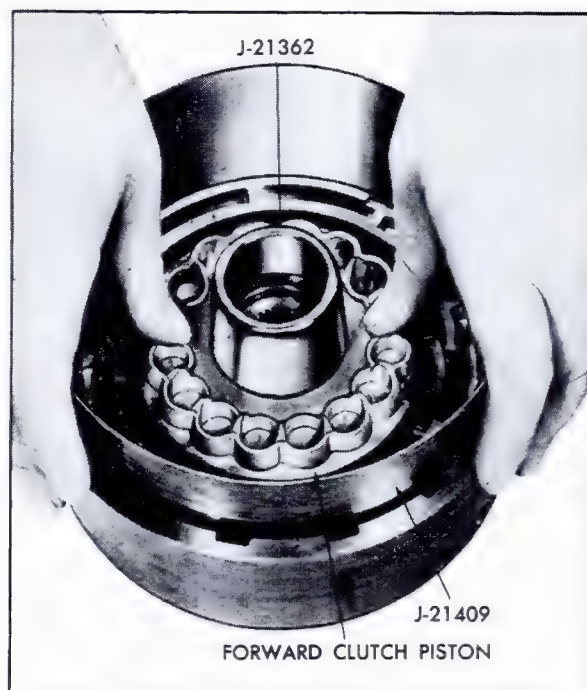

Fig. 7-79 Installing Forward Clutch Piston
5. Place Forward and Direct Clutch Inner Seal Protector, J-21362, over forward clutch hub. Install clutch piston inside Forward and Direct Clutch Piston Installer, J-21409, insert assembly in forward clutch housing, Fig. 7-79, and install clutch piston by rotating it slightly in a clockwise direction until seated.